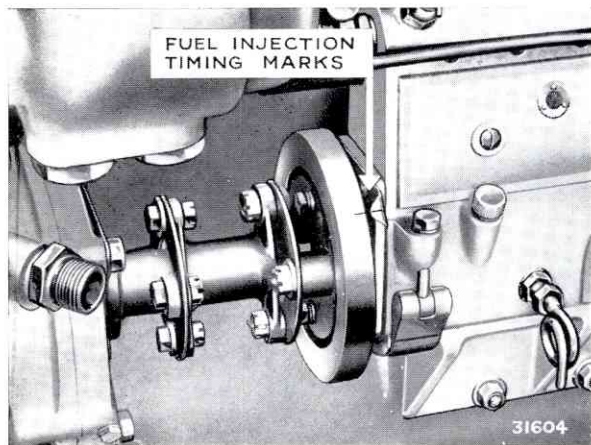

FIG. 61. INJECTION PUMP TIMING MARKS
8. Mark flywheel opposite timing pointer on pump body to facilitate replacement of pump should subsequent removal become necessary (Fig. 61).